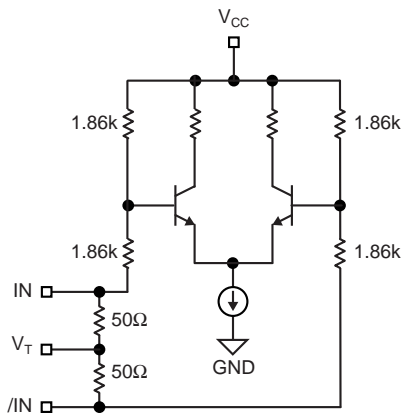

Figure 2a. Simplified Differential Input Buffer
- Note 3.** Due to the internal termination (see Figure 2a) the input current depends on the applied voltages at IN, /IN and V_T inputs. Do not apply a combination of voltages that causes the input current to exceed the maximum limit!
Note 3. Measured as per Figure 2a, 100 μ across Q and /Q outputs.